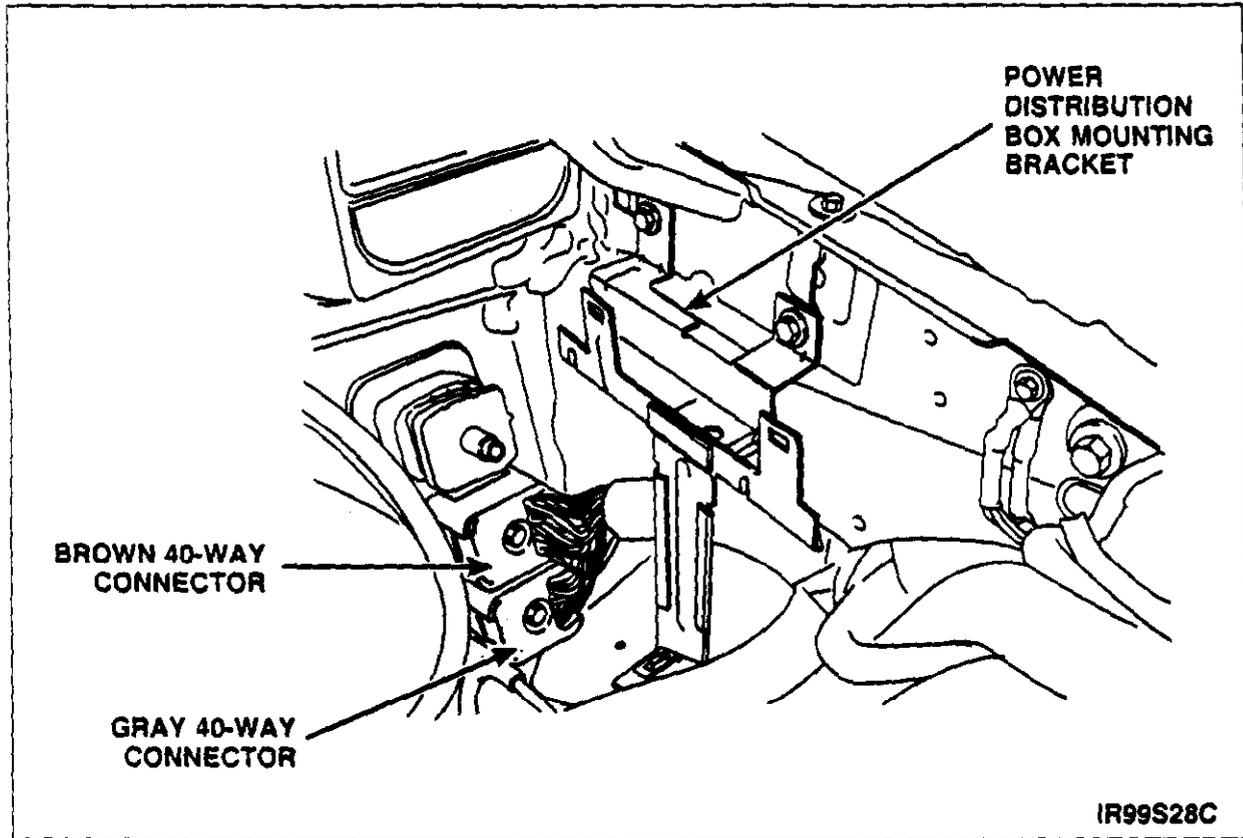

FIGURE 3
5. Remove the power distribution box mounting bracket. See Figure 3.
6. Disconnect the brown and the gray 40-way connectors. See Figure 3.